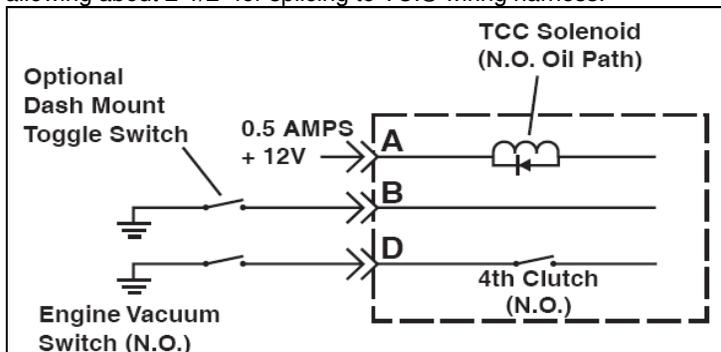
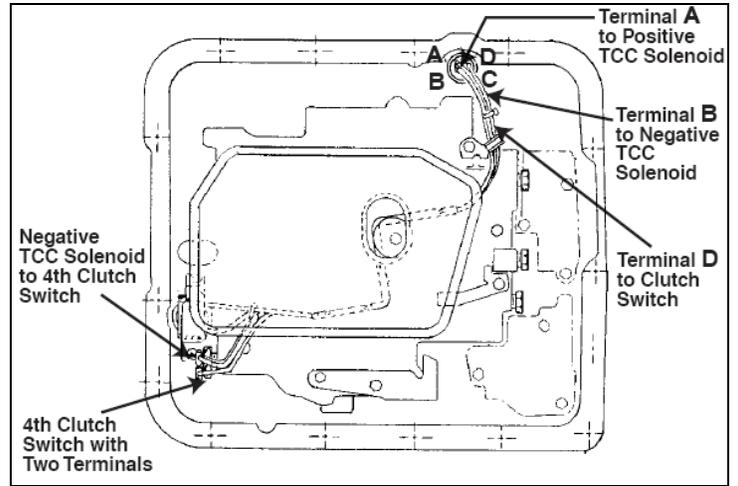

Figure 6
Figure 7
Step 13 Installation of TCI® Wiring Harness for torque converter lock up (See Figure 6 and Figure 7). Most applications will accept the OE solenoid. All two wire solenoids are acceptable. If you have a solenoid with only one wire, it cannot be used. You may purchase the proper solenoid from TCI® or from a GM dealer (part number 8654126). Using your OE solenoid with two wires, cut both wires allowing about 2-1/2" for splicing to TCI® wiring harness.
Step 14 External Wiring Instructions. Using 18 gauge wire run a 12 volt source to Terminal A (red). Terminal D (black) will need to be grounded (use 18 gauge wire). The TCC is now set to engage automatically in 4th gear only. The converter clutch will release when the transmission is downshifted out of 4th gear. **If you desire more control over the TCC you have two options.** Option 1 will allow you to lock up the torque converter in 2nd, 3rd and/or 4th by running wire B (green) to a ground dash mounted toggle switch. **Option 2** is for drivers that may want to shut down the TCC system completely. You will need to only run the 12 volt source through a second dash mounted toggle switch. Now you may manually turn the lock up system on and off (See Wiring Figure 6).